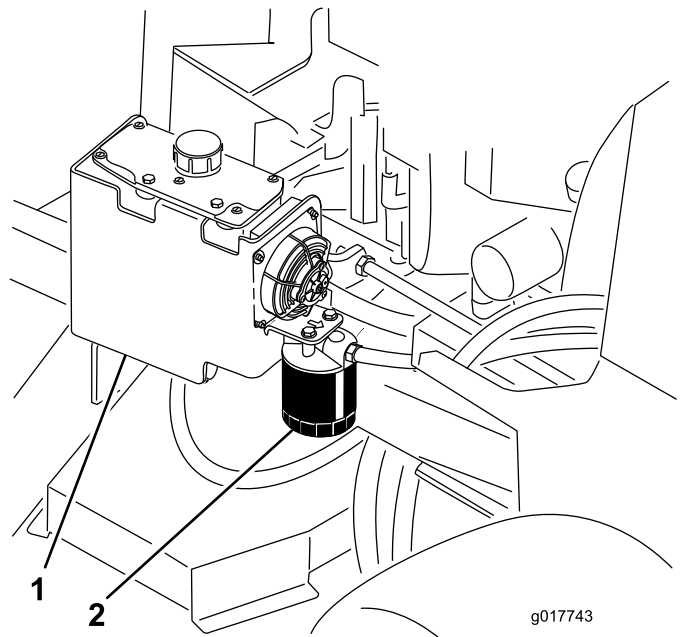

Figure 83
3. Locate the filter and place a drain pan under filter (Figure 83).